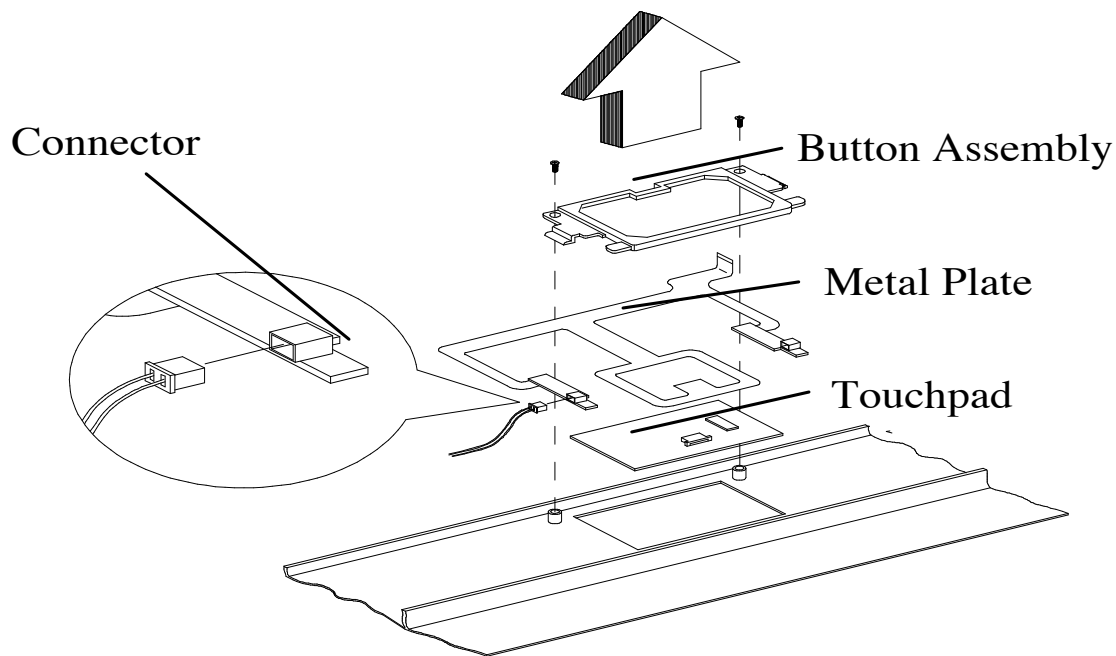

Figure 6-21 Removing Touchpad Assembly
7. Remove the two screws that secure the Touchpad Assembly to the Top Cover and remove the Button Assembly, Metal Plate, and Touchpad Main Sensor as shown in Figure 6-21.